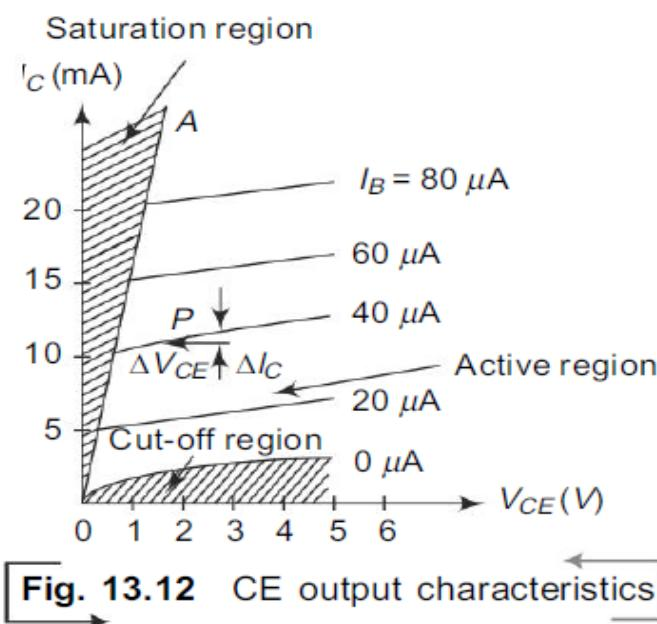

Fig. 13.12 CE output characteristics
**Output characteristics** To determine the output characteristics, the base current  $I_B$  is kept constant at a suitable value by adjusting base-emitter voltage,  $V_{BE}$ . The magnitude of collector-emitter voltage  $V_{CE}$  is increased in suitable equal steps from zero and the collector current  $I_C$  is noted for each setting of  $V_{CE}$ . Now the curves of  $I_C$  versus  $V_{CE}$  are plotted for different constant values of  $I_B$ . The output characteristics thus obtained are shown in Fig. 13.12.